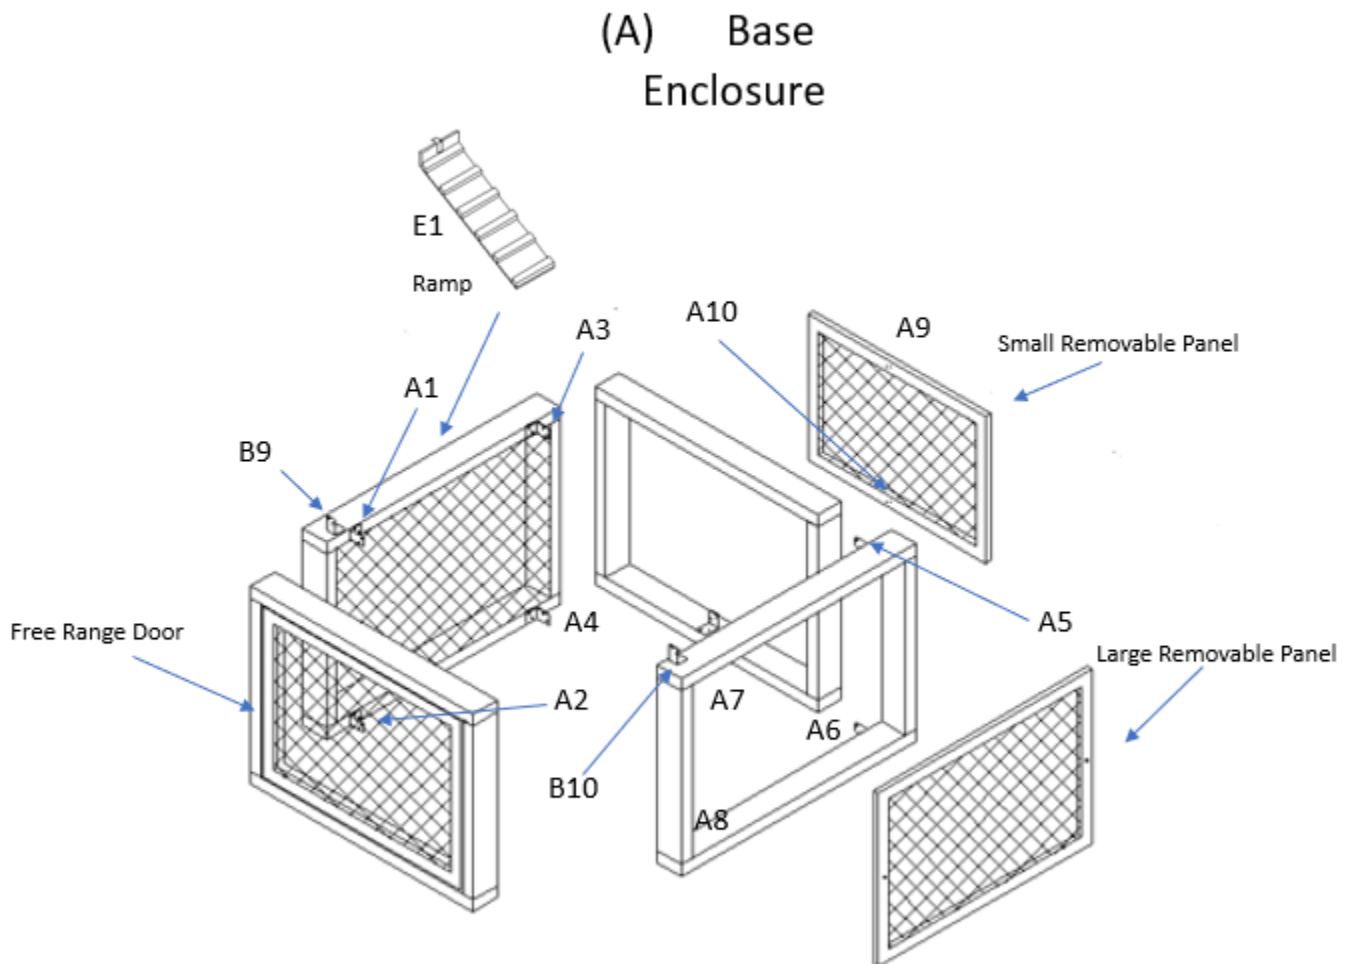

Figure 1.0
Step 2.) Position the panels in a box shape with the free range door and the open run panel where they are most convenient for you. (The open panel is where you will attach the run and can be on either the back or side of the coop) Then attach the two wire filled panels to form a box with the top and bottom remaining open. Each of the base enclosure brackets are clearly marked (A-1 through A-10) to help properly position each panel. Panels should be arranged by positioning the numbered hardware to the corresponding attachment point. (See Figure 1.0 below) Next place the floor access ramp (E1) descending from the frame top to the right and securing it in place using the metal bracket and ½" pan head screws. See figure 1.0